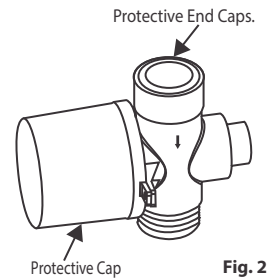

Fig. 2
- Flush Valve is supplied in a box in assembled form with the caps (Fig.2) for its protection and wall flange in separate packing.